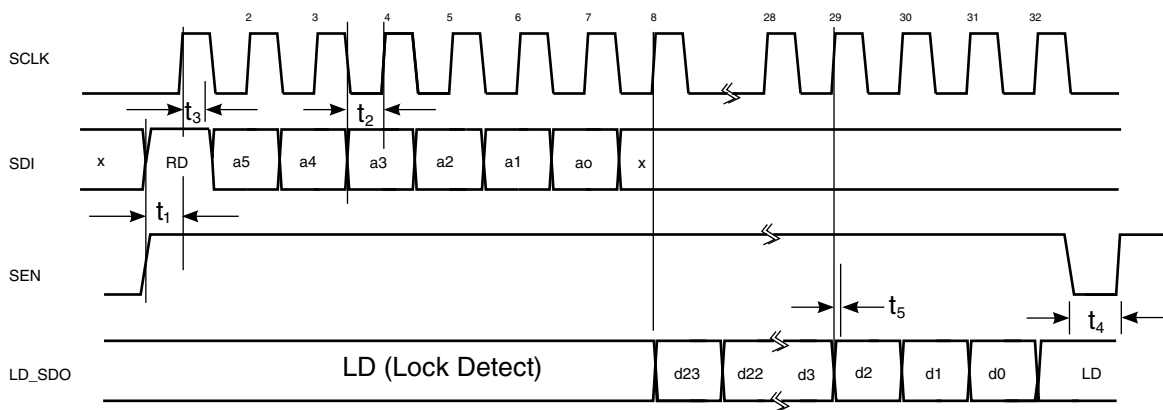

Figure 37. HMC Mode Serial Port Timing Diagram - READ
A typical HMC Mode READ cycle is shown in Figure 37.
- a. The Master (host) asserts both SEN (Serial Port Enable) and SDI to indicate a READ cycle, followed by a rising edge SCLK. Note: The Lock Detect (LD) function is usually multiplexed onto the LD_SDO pin. It is suggested that LD only be considered valid when SEN is low. In fact LD will not toggle until the first active data bit toggles on LD_SDO, and will be restored immediately after the trailing edge of the LSB of serial data out as shown in Figure 37.
- b. The slave (PLL) reads SDI on the 1st rising edge of SCLK after SEN. SDI high initiates the READ cycle (RD)